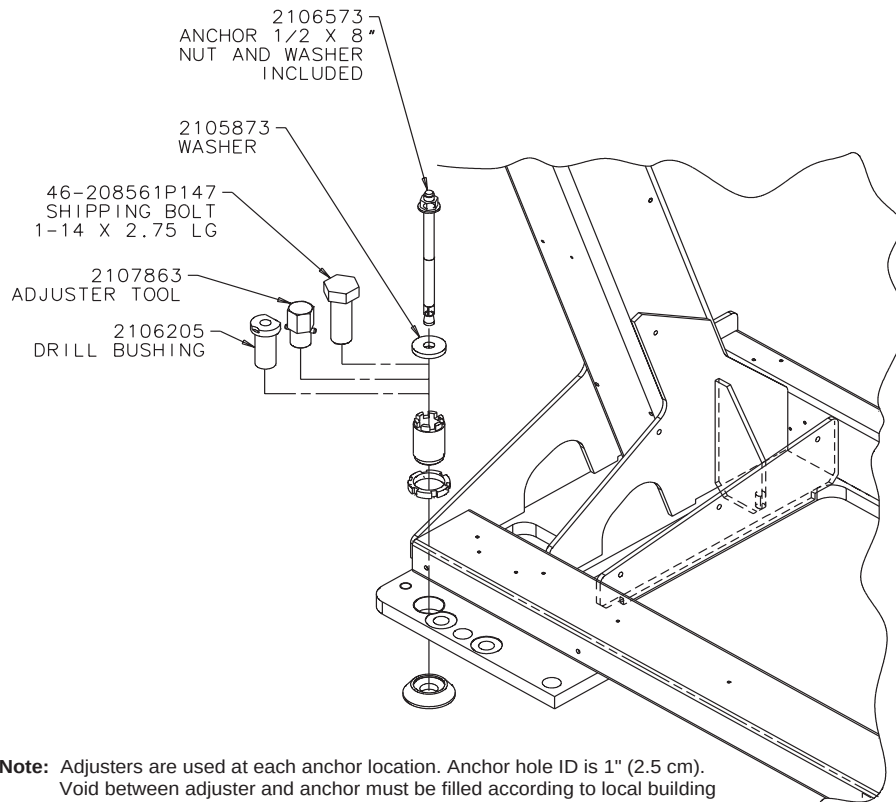

Figure 1-6 Table Base Installation Hardware
- Use the adjuster tool, 1¹/₈" socket, and the ½" drive ratchet to turn each adjuster. (Refer to Figure 1-6, on page 32.)